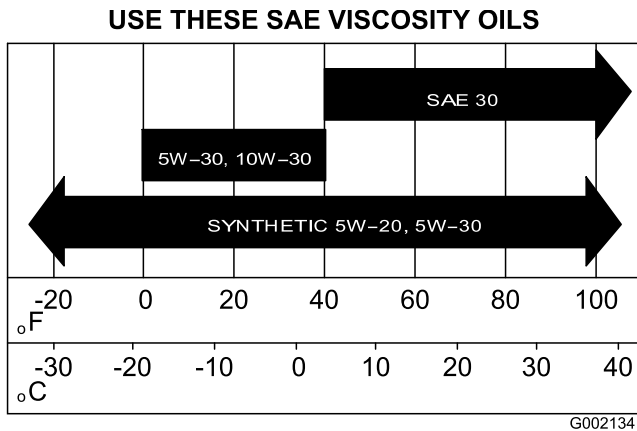

Figure 42
5. Fill the crankcase with the specified oil; refer to Figure 42 in *Changing the Oil (Models 07273 and 07273TC)* (page 35).